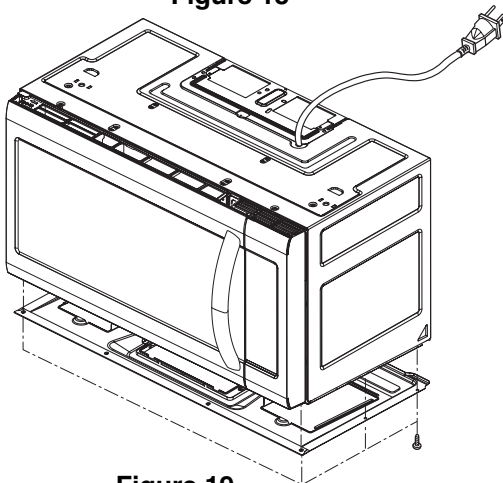

Figure 19
- (3) Remove the base plate by removing the 8 screws securing it to the oven cavity. (Figure 19)
- (4) Disconnect the lead wire from the turntable motor terminals.